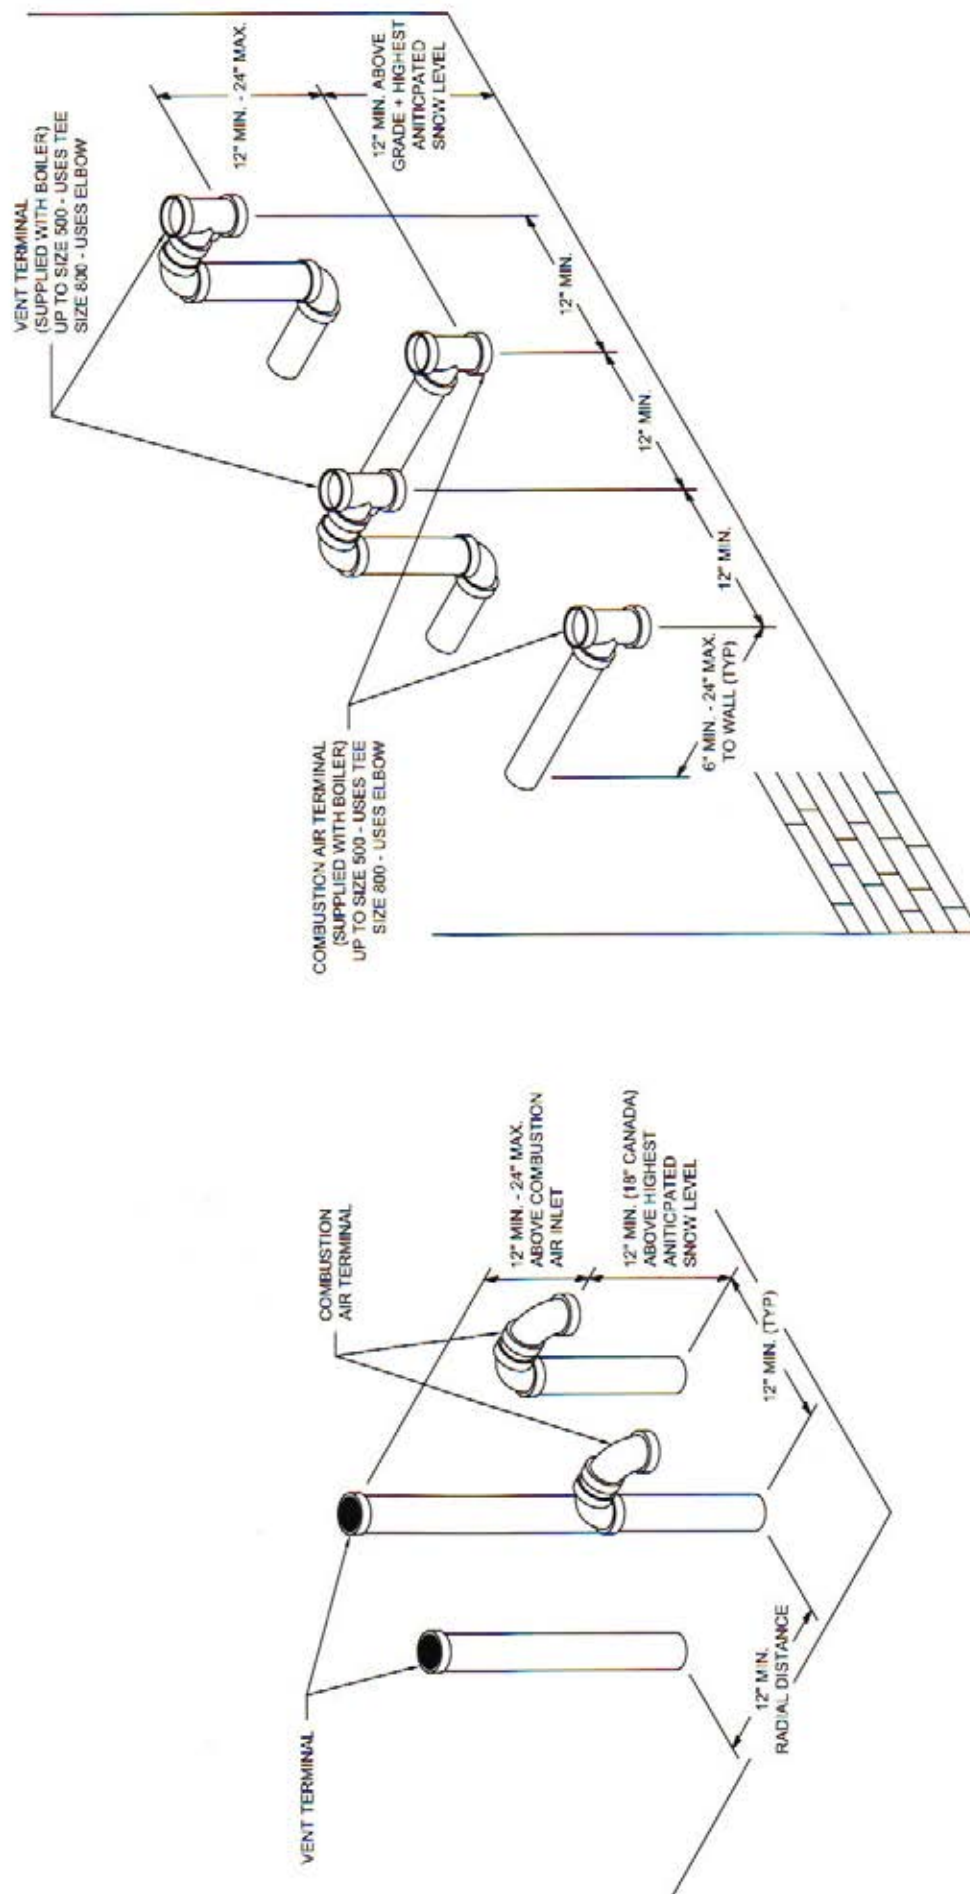

Figure 32: Multiple Boiler Direct Vent Termination
- Multiple Boiler CPVC/PVC or polypropylene direct venting is shown in Figure 32.
- Individual module (boiler) sidewall vent terminals must be placed at least twelve (12) inches above the ground plus the expected snow accumulation.
- Multiple individual module vertical vent pipes may be piped through a common conduit or chase so that one roof penetration may be made. The minimum horizontal distance between any adjacent individual module (boiler) roof vent terminations is one (1) foot.
- Multiple Boiler PVC air intake piping is shown in Figure 32.